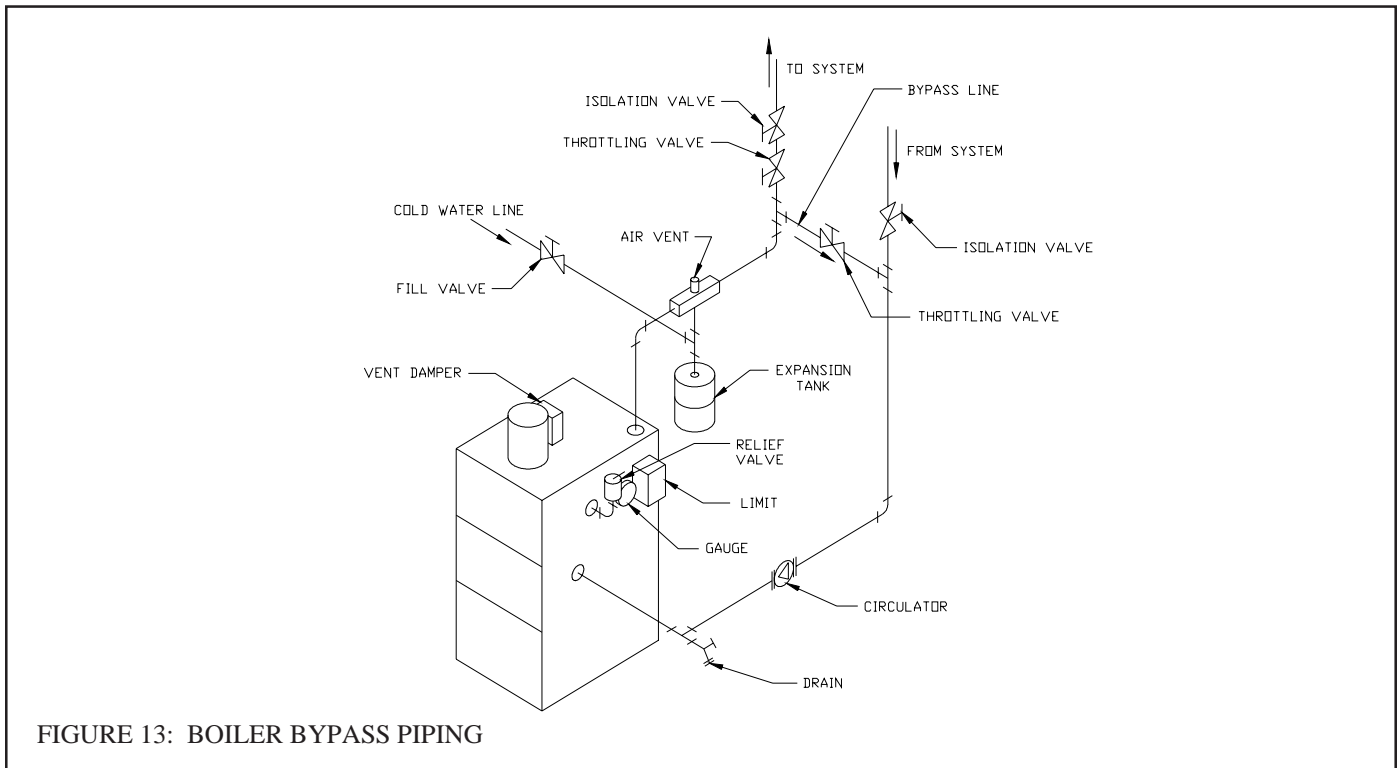

FIGURE 13: BOILER BYPASS PIPING
2) Large Water Volume Systems - The piping shown in Figure 13 will minimize the amount of time that the boiler operates with return temperatures below 120°F on these systems. A bypass is installed as shown to divert some supply water directly into the return water. The bypass pipe should be the same size as the supply. The two throttling valves shown are adjusted so that the return temperature rises above 120°F during the first few minutes of operation. A three-way valve can be substituted for the two throttling valves shown. If the circulator is mounted on the supply, the bypass must be on the discharge side of the circulator.